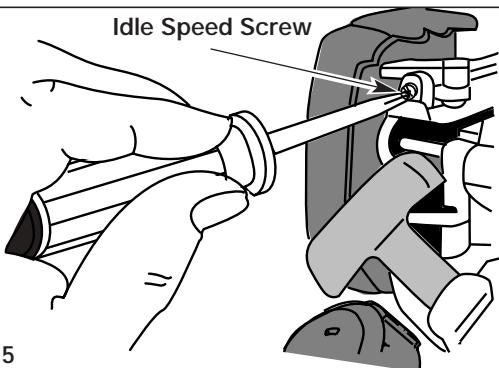

Fig. 6-15
The idle speed of the engine is adjustable by the screw next to the air filter cover (Fig. 6-15).
2. Release the throttle trigger and let the engine idle. If the engine stops, insert a small phillips or flat blade screwdriver into the screw next to the air filter cover (Fig. 6-15). Turn the idle speed screw in, clockwise, 1/8 of a turn at a time (as needed) until the engine idles smoothly.